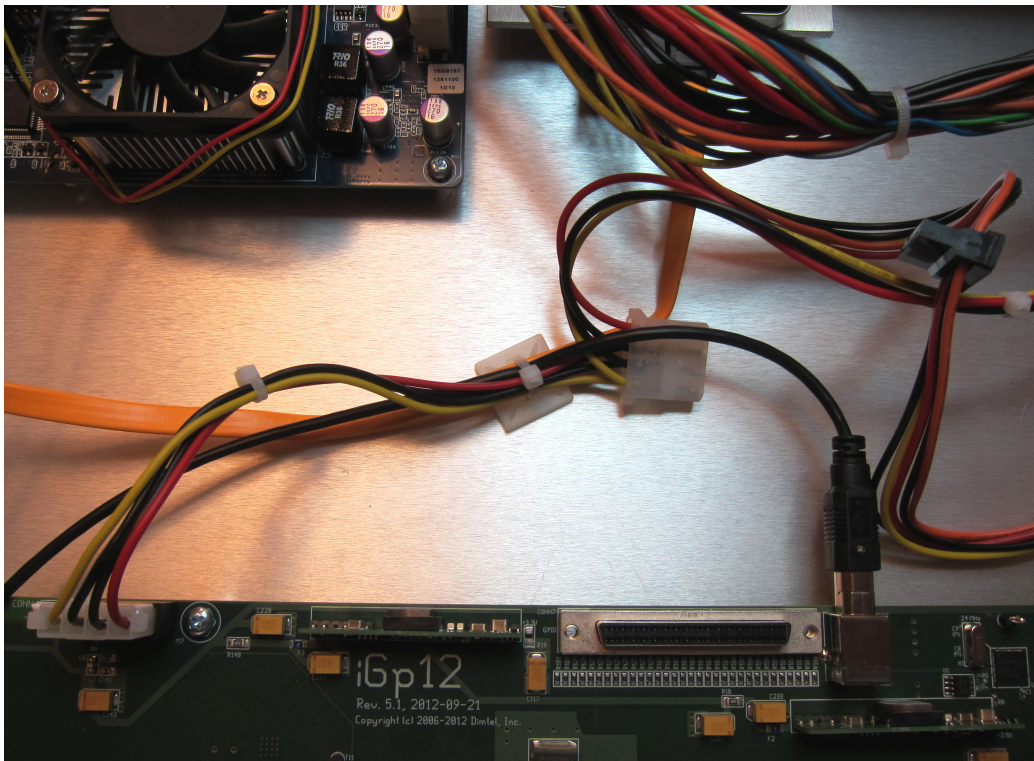

Figure 43: Zip tie retaining USB, SATA, and iGp12 power cables.
12. Install 0.75" square (561-N3588) mount and tie SATA cable, iGp12 power supply, and USB cable to it as shown in Figure 43.